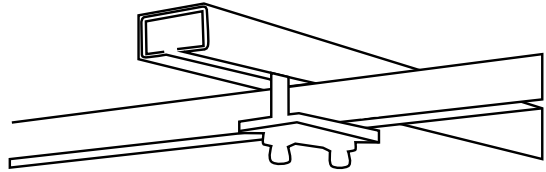

figure 3
3. Attach the roof tent to your roof rack or roof bars in four places as per figure 3.